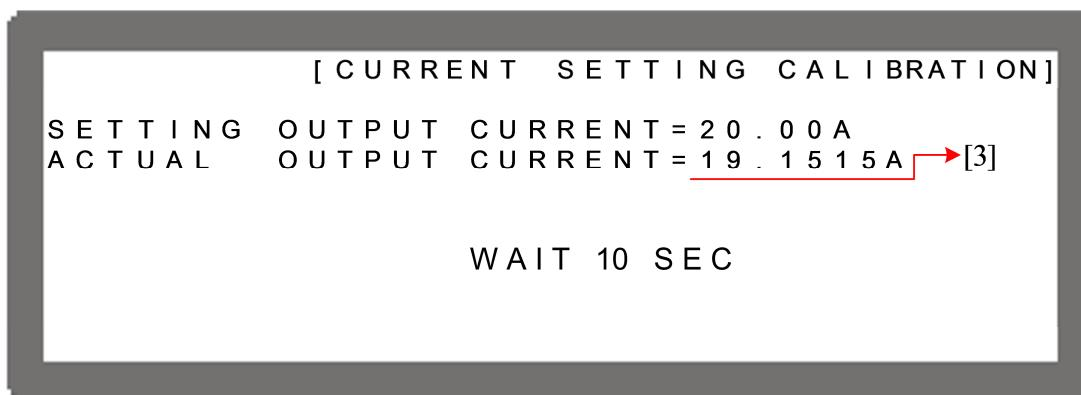

Figure 3-114
8. Press “” to perform the 20A calibration. The system will automatically set the output current to 20.00A. Once the reading is done, the cursor will stop at position [3] as shown in Figure 3-114. Input the current (enter 4 digits after the decimal point) read by the Current Shunt (DVM) and press “” to confirm.